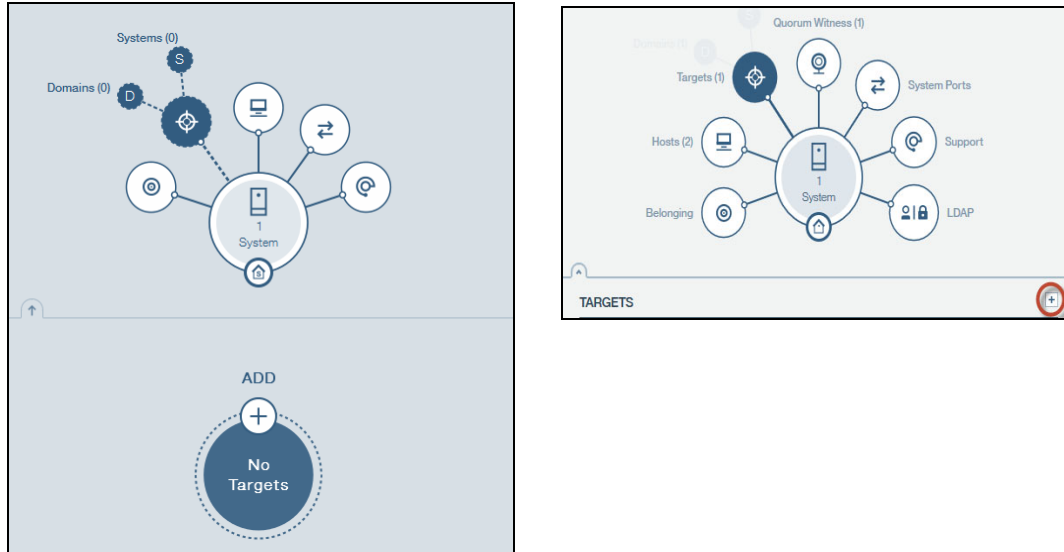

Figure 3-17 Create target
1. Add the target system by selecting the **Targets** spoke from the System Hub display and clicking the plus sign (+) to ADD a new target, as shown in Figure 3-17.